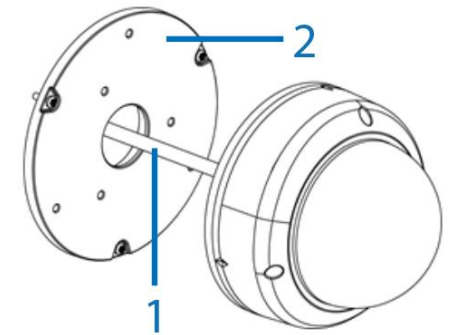

Figure 6
- Run the camera cable (1) (Figure 6) through the hole on the adaptor plate (2) (Figure 6) and place the adaptor plate up into the rear of the camera base.